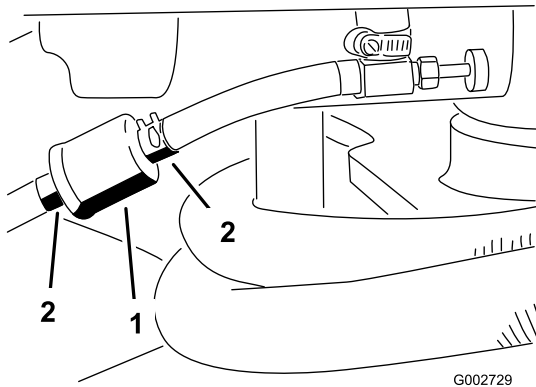

Figure 29
1. Close fuel shut off valve, loosen the hose clamp on the carburetor side of filter and remove the fuel line from the filter (Figure 29).